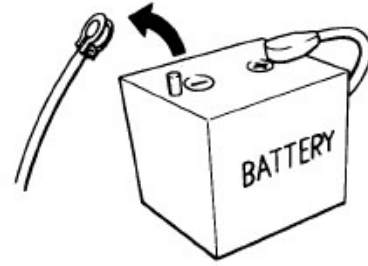

Figure 3 : Always remove negative wire.
2. Disconnect the negative terminal of the battery (**figure 3**) and isolate it with a rag, etc. so that it doesn't reconnect itself on accident. You must wait at least 5 minutes before continuing on the next step.